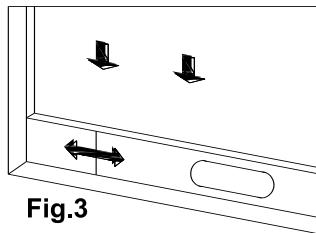
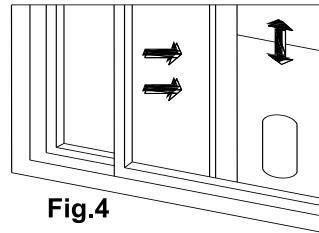

Fig.3
Fig.4
- 1) Half open the window and mount the window sealing plate assembly to the window (as shown in Fig.3 and Fig.4). Components can be placed in horizontal and vertical direction.